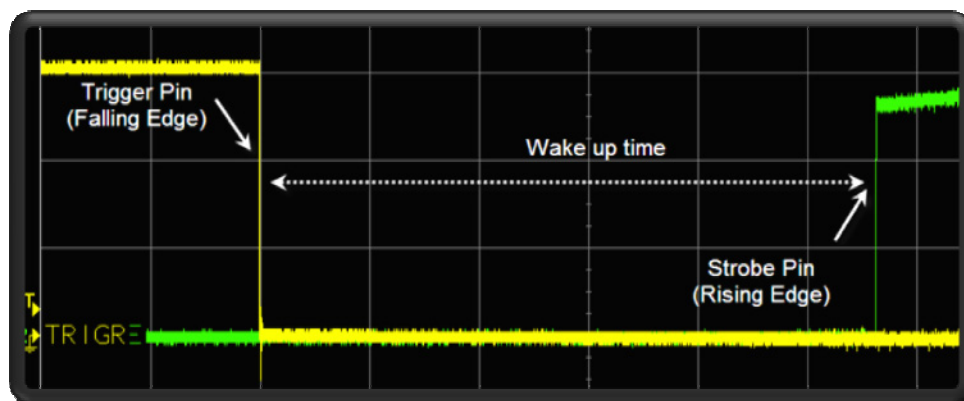

Fig 17. Low power mode demo
17. As shown in Fig 17, the wakeup time is the difference between the falling edge of the trigger pin (yellow waveform) and the rising edge of the Strobe pin (green waveform).